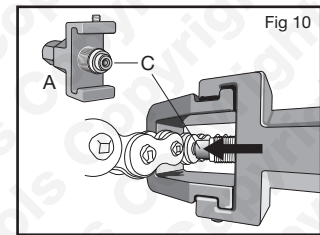

Fig 10
- Screw in the force screw of the pin holder so that head of the removal pin / riveting head (C) is positioned centrally over one of the link pin heads **Fig. 10.**
- Use a 27mm spanner to hold the tool steady and turn the force screw of the pin holder (A) with a 19mm socket and ratchet handle. Turn clockwise to deform the link pin head and form the rivet. Pull back the removal pin / riveting head (C) once or twice to check that the rivet head is forming centrally and that it is cleanly riveting.
- When the first pin's rivet is completed, pull back the removal pin / riveting head (C) and reposition the chain link so that the second pin is lined up with the riveting head. Then repeat the riveting procedure.